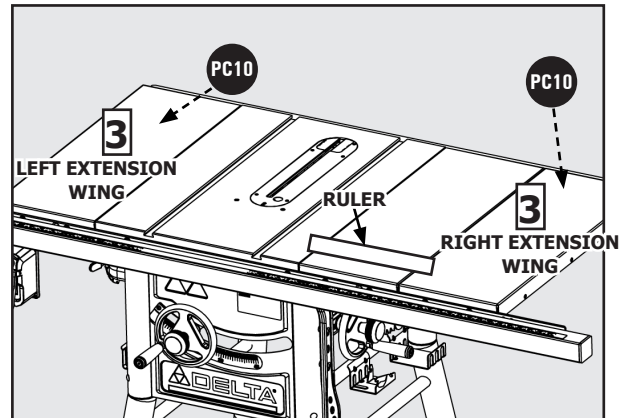

Figure 8
**NOTE:** Use a ruler to make sure the top edges of the wings are flush with the top of the tabletop. See Figure 8.